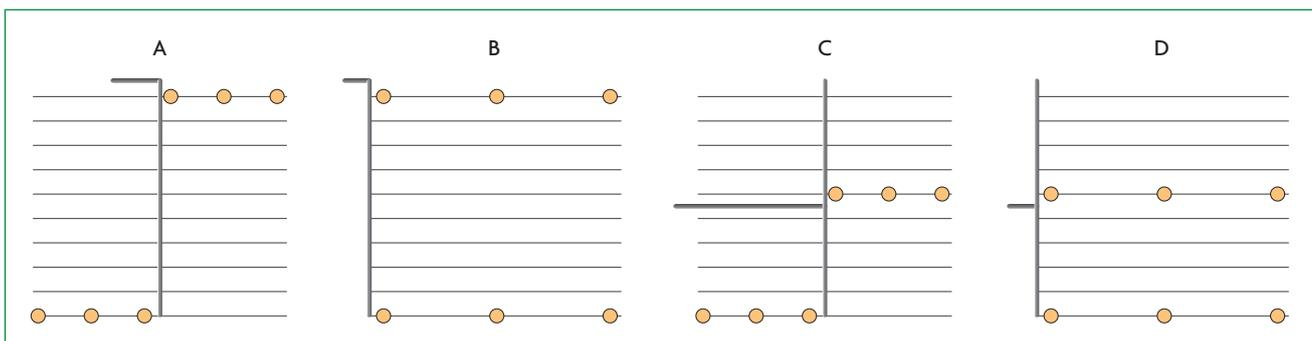

Figure 3.2. Location of positions for pressure testing
The pressure at the start of the first lateral (see Figure 3.2 below) may be a substitute measurement for off-take pressure.
7. Measure the Pressure at the beginning, middle and end of the first and last laterals in *each assessed station* (see Figure 3.2 a–d)